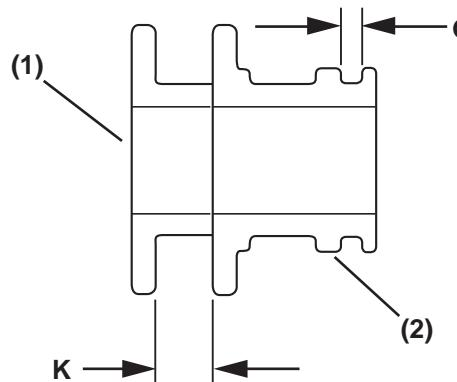

Figure 9-6
Check each part for damage, wear, surface defects and discoloration. Replace the component if needed, even if dimensions (**Figure 9-6, (G)**) and (**Figure 9-6, (K)**) are within the wear limit.
Measure the seal ring groove width (**Figure 9-6, (K)**) of the thrust busing. Replace the thrust bushing if the measured value exceeds the wear limit.
Measure the seal ring groove width (**Figure 9-6, (G)**). Replace with a new one if the measured value exceeds the wear limit.